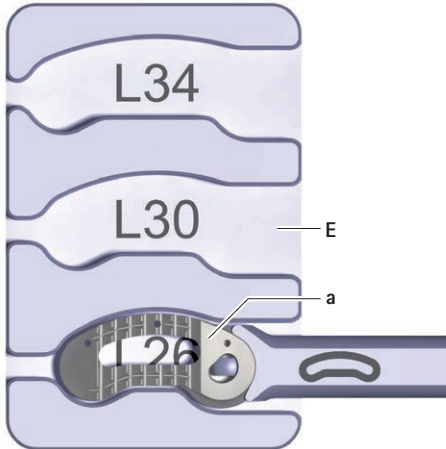

Fig. 9 Implant in packing block
- ▶ Place implant **a** in packing block **E** (PEEK and XP) or **F** (3D), see Fig. 9. When doing so, observe the implant length (markings on the packing block indicate lengths).